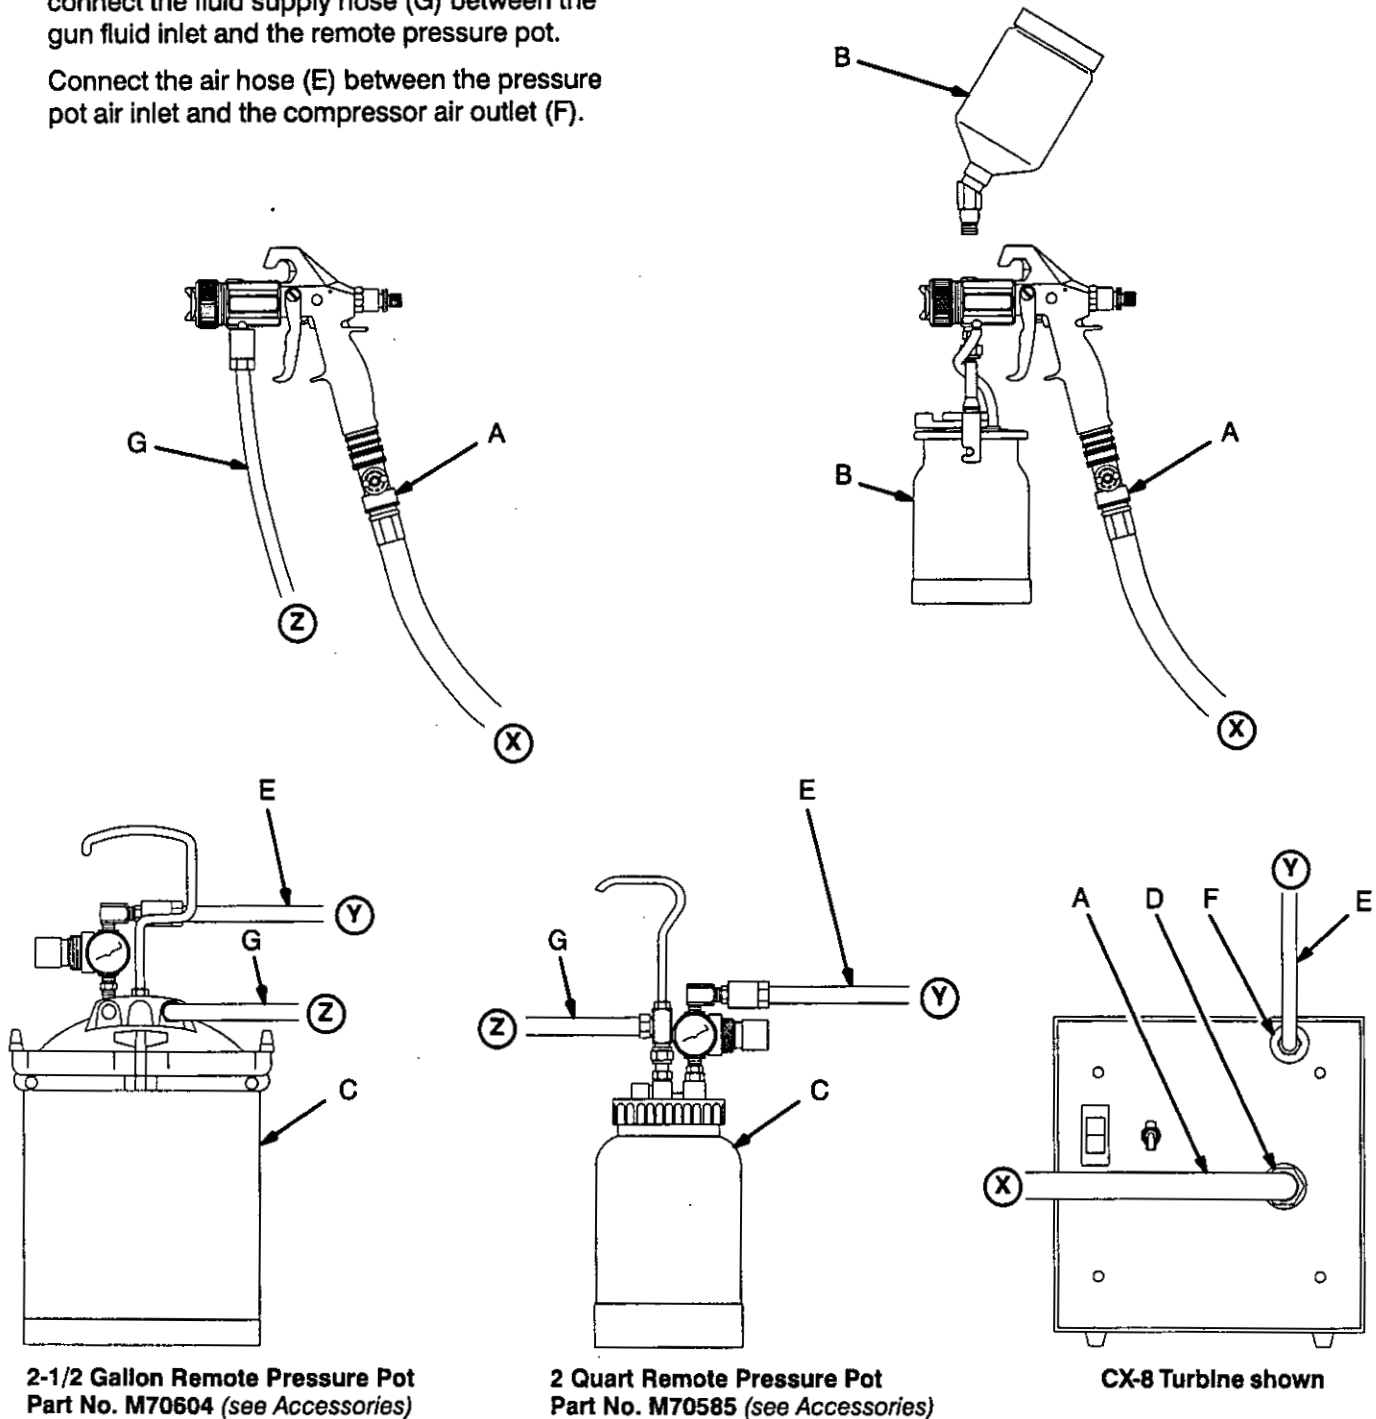

Fig. 2
1. Connect the gun air supply hose (A) between the turbine air outlet (D) and the gun air inlet. See Fig. 2.
2. *If using a spray gun cup (B),* connect the cup to the gun fluid inlet.
3. *If using an accessory remote pressure pot (C),* connect the fluid supply hose (G) between the gun fluid inlet and the remote pressure pot.
- Connect the air hose (E) between the pressure pot air inlet and the compressor air outlet (F).
- The circled letters in Fig. 2 indicate hose line connections.